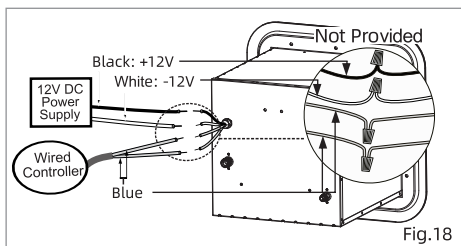

Fig.18
3. Connect the wall controller wires (2 blue wires on the appliance). (Fig.18)
2. Connect the power supply wires (on rear of water heater- white and black wire) to the appropriate nominal 12V DC power source connection. (Fig.18)